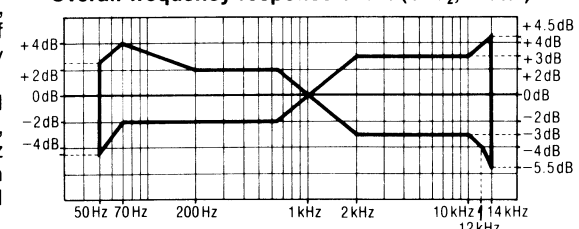

Fig. 16
- Change test tape to CrO₂ reference blank test tape (QZZCRX), and record 1kHz, 50Hz, 100Hz, 200Hz, 500Hz, 4kHz, 8kHz, 10kHz, 12kHz and 14kHz signals. Then, playback the signals and check if the curve is within the limits shown in the overall frequency response chart or CrO₂ tapes (fig. 16).
- Place UNIT into metal tape mode and change test tape to metal reference blank test tape (QZZCRZ), and record 1kHz, 50Hz, 100Hz, 200Hz, 500Hz, 4kHz, 8kHz, 10kHz, 12kHz and 14kHz signals. Then, playback the signals and check if the curve is within the limits shown in the overall frequency response chart for metal tapes (fig. 16).